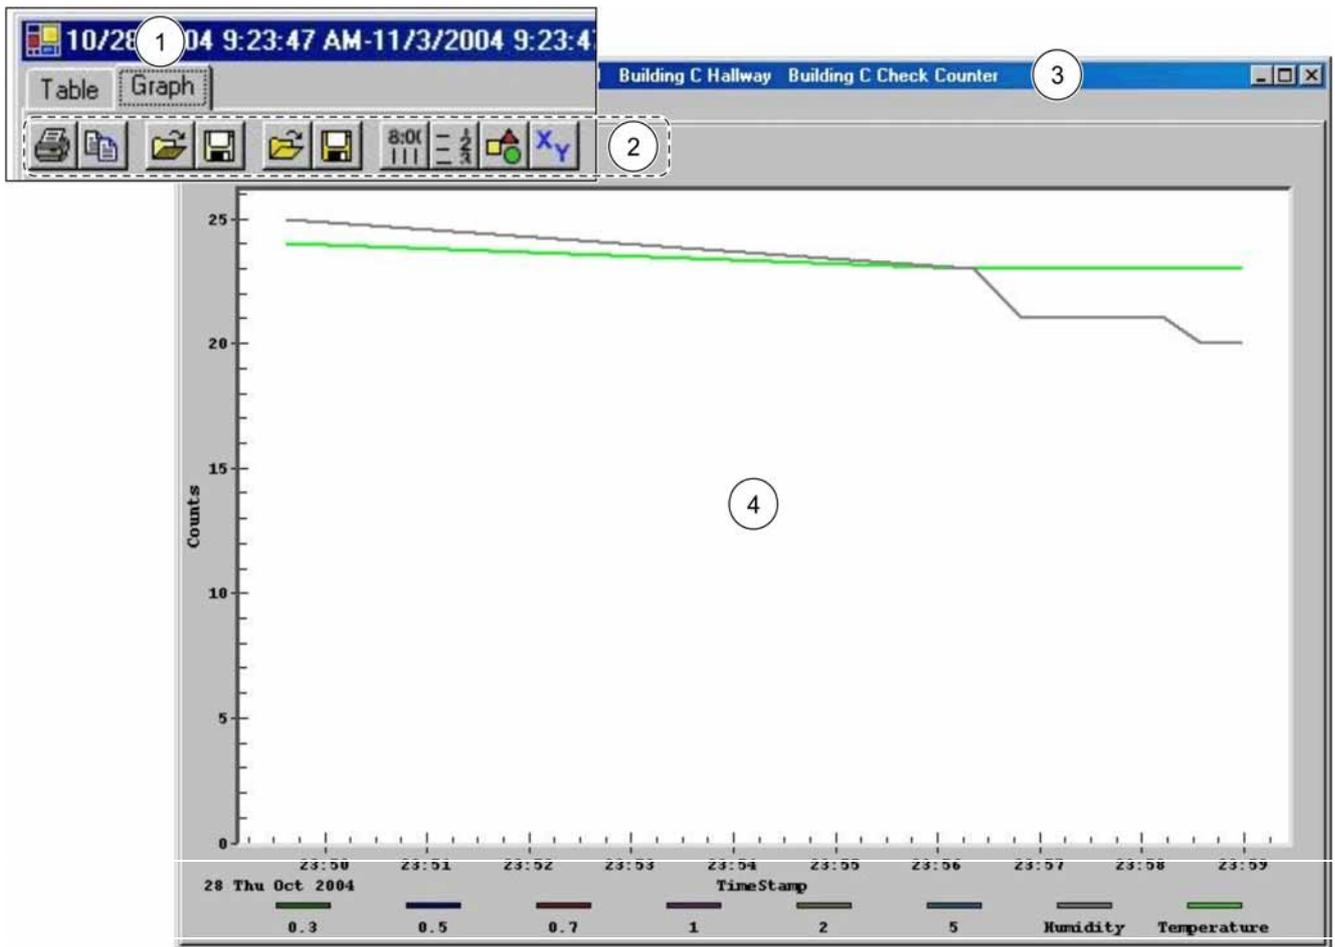

Figure 28 Graph Window
- Click the **GRAPH** tab. The data is shown by default as a line graph (Figure 28).